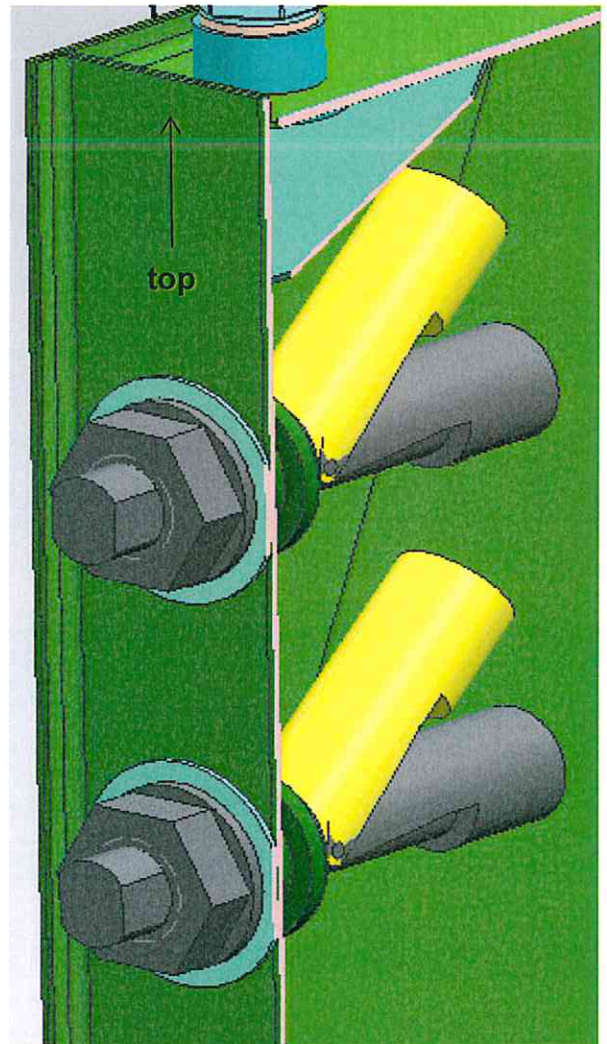

Fig. 1 Installation direction
5. Install the switches (installation direction see Fig. 1) and tighten with **2.67 Nm**